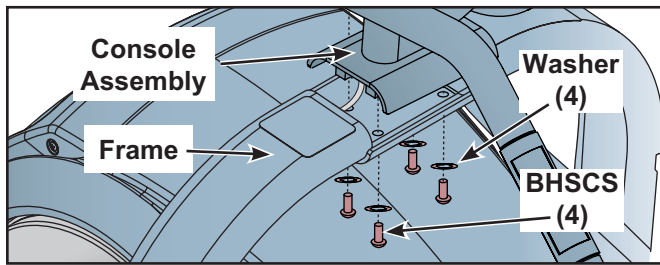

Figure 4
A. Using a 7/32" Allen wrench, remove the four BHSCS (Button Head Socket Cap Screw) and four washers securing the console assembly to the frame. See Figure 4.
- D. Using a 7/32" Allen wrench, attach the four BHSCS and four washers removed in step 6A securing the console assembly to the frame. See Figure 4.